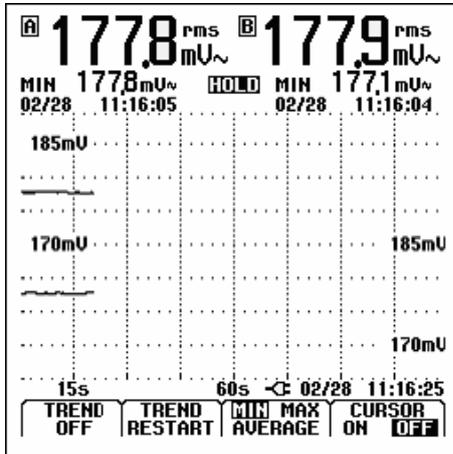

Figure 5-1. TrendPlot Reading
①  Open the application mode menu.
②   Highlight TRENDPLOT
③ **F4** Start the TrendPlot. You will see a screen like figure 5-1.